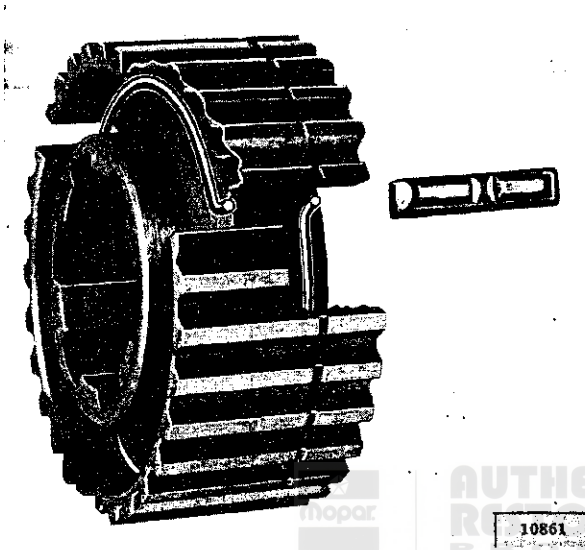

FIG. J-12—SYNCHRONIZER SPRINGS
f. Next, assemble the synchronizer unit. The assembly sequence of the synchronizer is shown in Fig. J-12. First install the two springs in the high and intermediate clutch hub. These springs must be installed with the spring tension opposed. Place the right lipped end of a spring in a slot of the hub and place the spring in the hub. Turn the hub around and make exactly the same installation with the other spring starting with the same slot. Fig. J-5. Install the three synchronized shifting plates in the three slots in the hub with the smooth side of the plates out. Hold the plates in position and slip the second and direct speed clutch sleeve